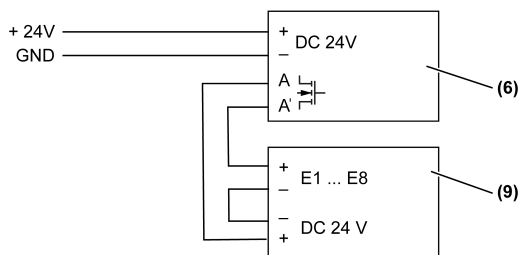

Figure 7: Connection to Binary input 8-gang, 24 V
| (Figure 7) | (9) Binary input 8-gang, 24 V, Art. no.: 2128REG |